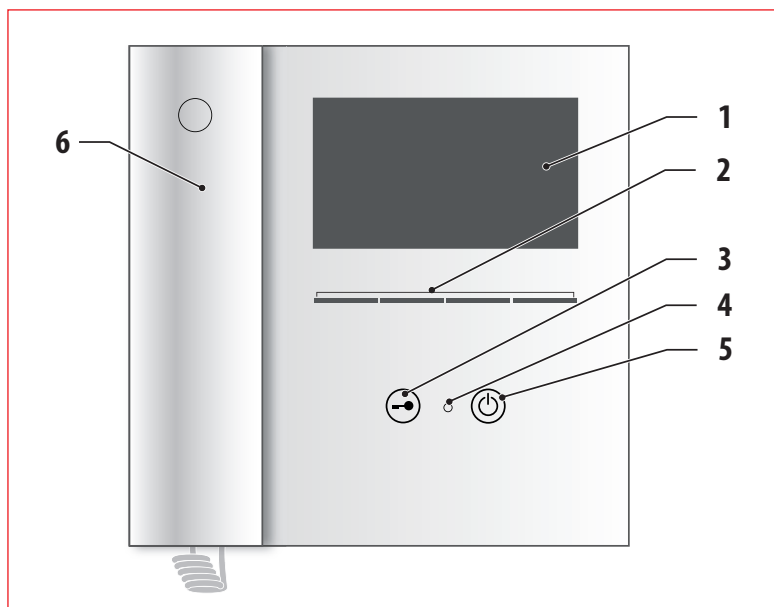

Fig. 11. Indoor station assignment
- > Within 3 minutes, press the On/Off or door open/light button on the newly assigned indoor unit (5 or 3, Fig. 11).